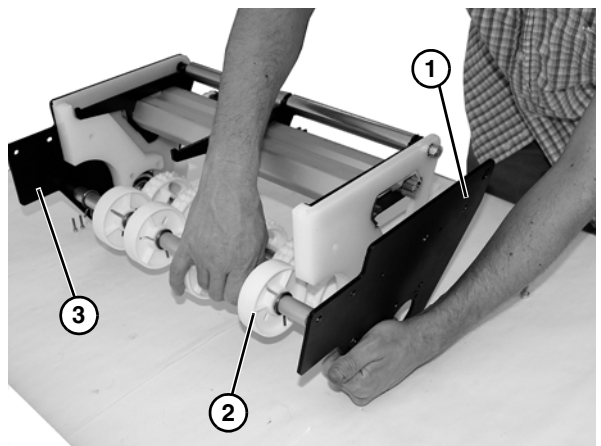

Figure 52
11. Remove end plate (**Figure 52, item 1**), and remove lower roller assembly (**Figure 52, item 2**) from end plate and opposite end plate (**Figure 52, item 3**).